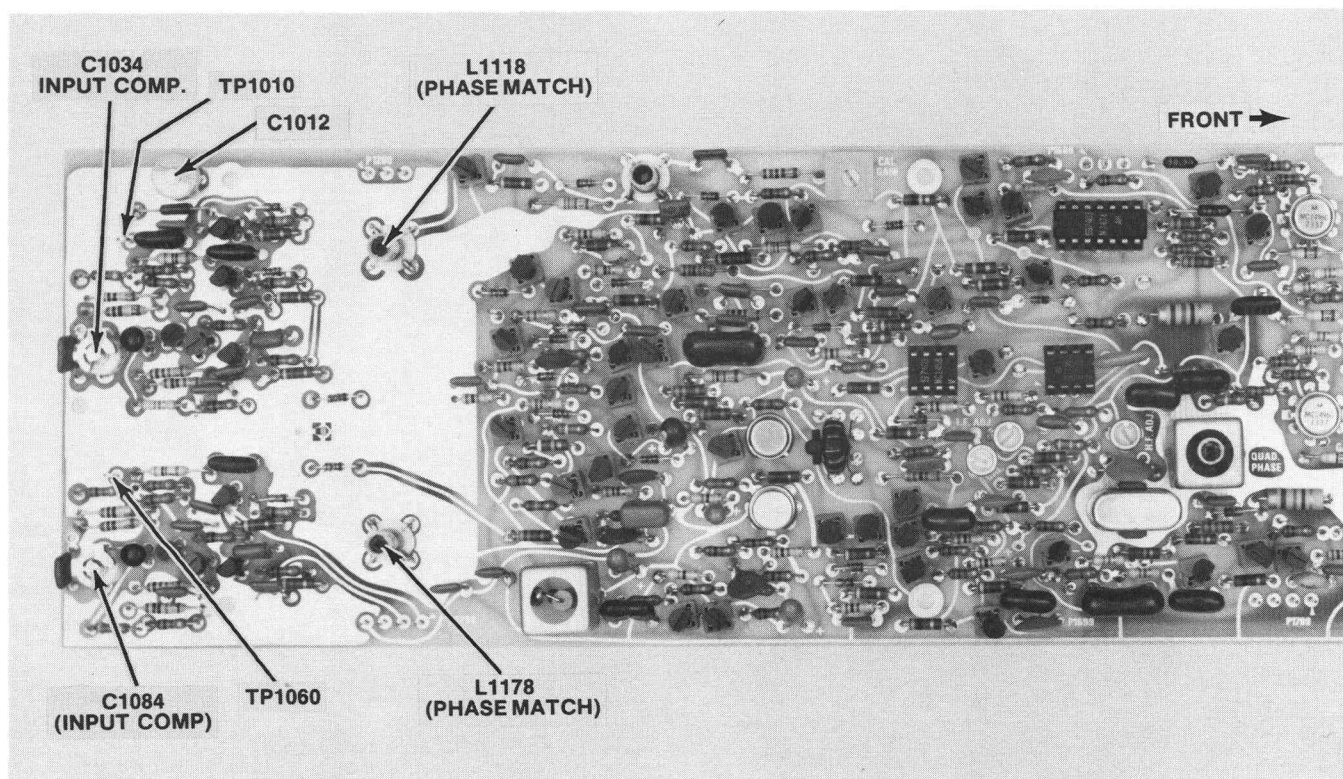

Fig. 3-8. Input Amplifier test points and adjustments.
- a. Connect the 10X probe from the Test Oscilloscope to TP1010 on the Demodulator board (see Fig. 3-8).
- d. Move the 10X probe to TP1060 (see Fig. 3-8).